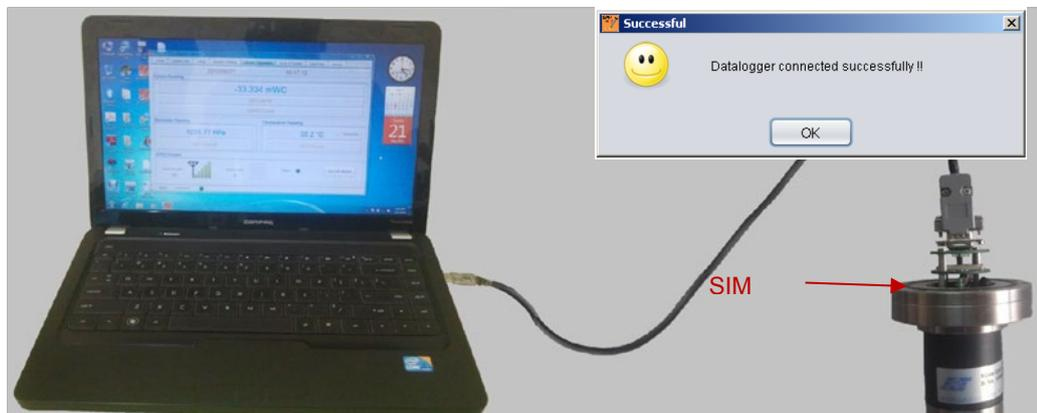

Figure 8-23: EWLR-101 Datalogger connecting to PC
- 8.8.1 Connect the laptop and EWLR-101 datalogger through the USB to RS232 cable provided with the system figure 8-23.